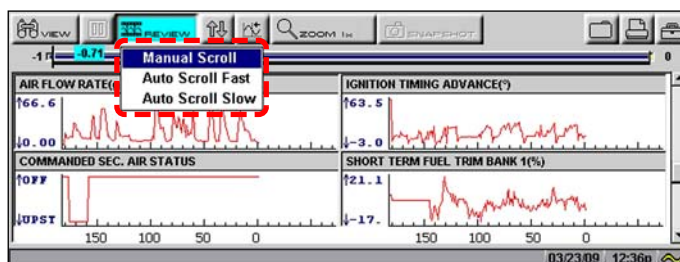

Figure 5-40 Sample Review dropdown menu
1. With the **Review** button selected, press **Y/✓** again to display a dropdown menu of options (Figure 5-40).